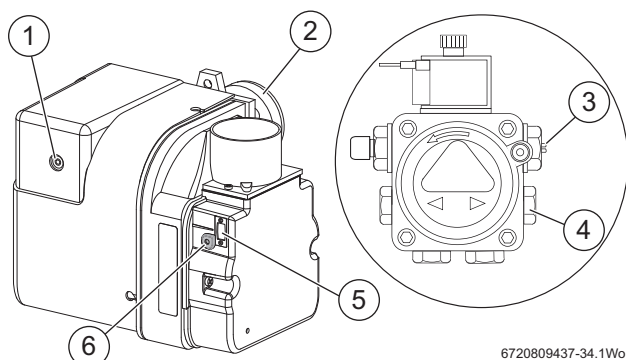

Fig. 49
- ▶ Check for after-spurting from the nozzle, indicated by oil saturation on the combustion head (G figure 49).
- ▶ Remove the burner, combustion head [2] figure 49 and electrodes, hold the burner vertical to unscrew the nozzle and fill the nozzle holder with kerosene.
- ▶ Refit nozzle, electrodes, combustion head [2] figure 49 and the burner.
- ▶ Check the CO2 levels and adjust the air shutter [6] figure 49 setting according to the table opposite.
**i** If the flue gas temperature is too high and the baffles are correctly fitted, then reduce the oil pump pressure [3] figure 49, 5-10 p.s.i. to compensate for nozzle variations. If the pump pressure has been changed, the CO2 levels must be rechecked and air shutter adjusted if necessary.
- ▶ Refit the blanking plug [4] figure 49.
- ▶ Recheck the CO2 levels and if required, adjust the air shutter setting [6] figure 49 to obtain the correct CO2 level.